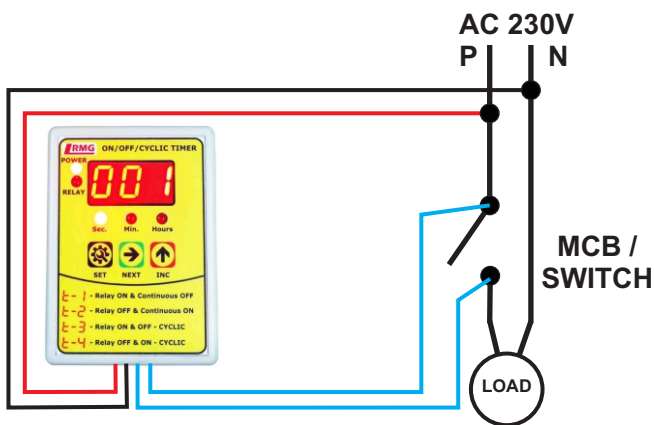

Figure1: 1Φ SWITCH/MCB
**Step 2:** As per the model purchased, check the label and connect AC supply (230V / 440 V) to red and black wire of timer refer figure 1.
**Step 3:** For switch or MCB, Connect blue pair wire to the switch/MCB of the motor in parallel as shown in figure 1.